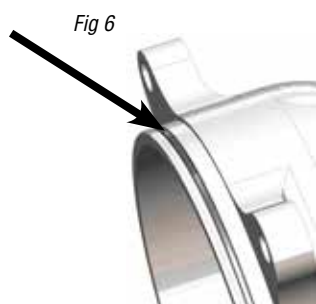

Fig 6
- Lubricate the vapor protection o-ring (item 24) on the front of the motor adapter with petroleum jelly. See figure 6.